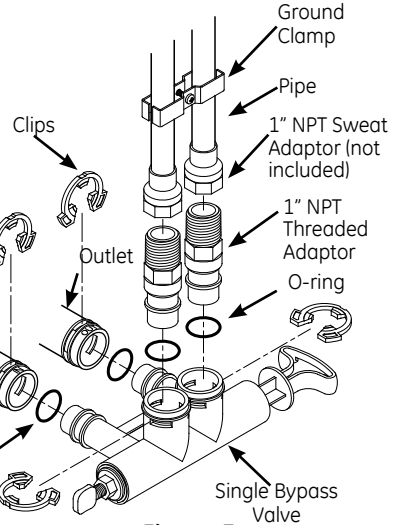

Figure 7
1. Remove two clips from the water softener valve inlet and outlet ports and visually check and remove any debris, see Figure 7.
3. If not already done, put a light coating of silicone grease on the single bypass valve o-rings, see Figure 7.
4. Push the single bypass valve into the softener valve as far as it will go. Snap the two large holding clips into place, from the top down, see Figure 7 and 10.